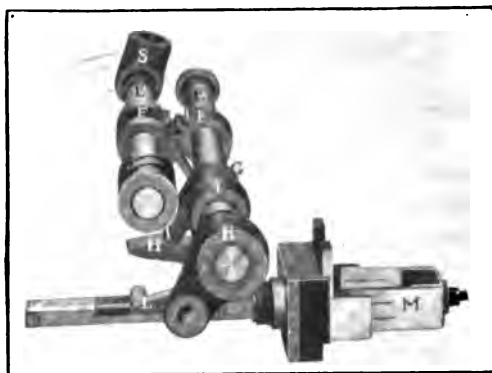

Fig. 448. End View of C-H Neutralizing Mechanism and Master Switch
**Stopping the Car.** When it is desired to stop the car, the clutch pedal is depressed all the way, after the neutral button has been pressed. Pressing this button breaks any contacts that may have been made previously by the selector switch buttons, and depressing the clutch pedal then brings into action what is termed the neutralizing device. For example, the car has been running on high, the neutral button is pressed and the clutch pedal pushed all the way forward. This causes the operating lever *K* to move ahead, Fig. 448. Then the neutralizing cams *F* pull on the boss on the shifter forks as if a shift were to be made, and the master switch *M* will also close; but, as the neutral button has opened all the selector switches,
and the sliding member is within  $\frac{1}{2}$  inch of being "home", the pawl *G*, Fig. 448, falls back, owing to the pull of the magnet against the